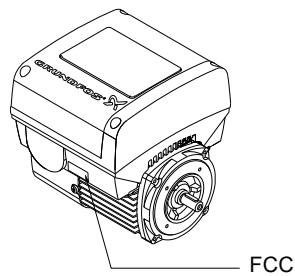

Fig. 62 FCC label
10. If the CIM module is supplied with an FCC label, then place this on the terminal box. See fig. 62.